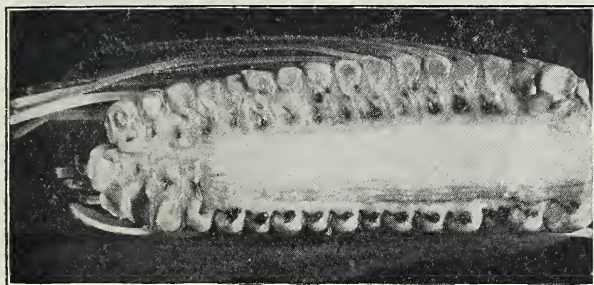
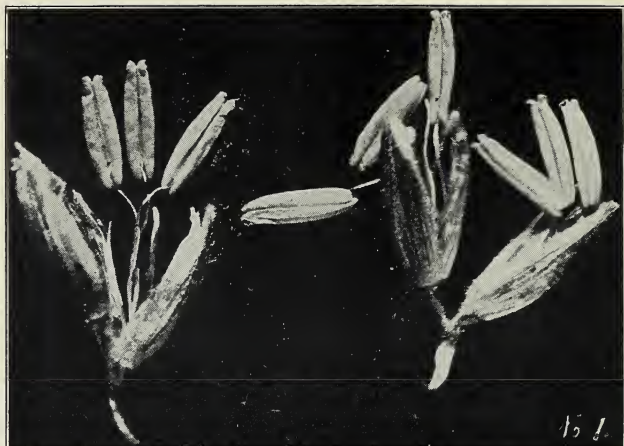

Fig. 368. Pistillate flowers of corn, the ear. Each silk is a style.
Fig. 370. Staminate flowers of corn.
**How pollen travels.** Certainly, since nature has set up this complicated means of reproduction, there must be some means of transportation of pollen. One means is the wind which picks up the pollen grains from the ripe anthers and bears them along to a ripened stigma (Fig. 370). Wind-pollinated flowers are usually small and inconspicuous, without showy petals. If you look at them closely, you will often see anthers dangling where the pollen will be shaken out and carried away by the wind. The stigmas, too, are often dangling out like tiny feathers (Fig. 368).